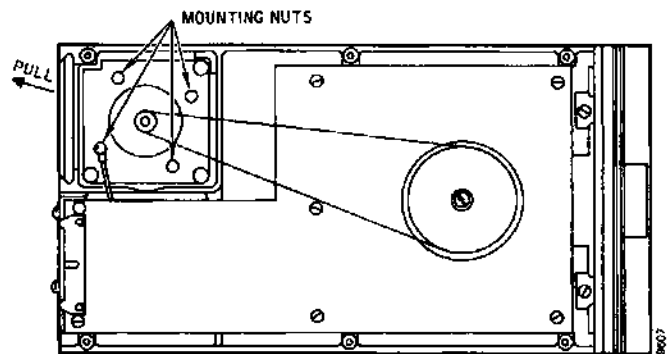

Figure 4-5. Drive Belt Checks and Adjustments
5. Verify that belt tension is 2.5 to 3.0 pounds (Figure 4-5). If tension is not as specified, perform the Drive Belt Tension Adjustment.
2. Loosen the four drive motor mounting nuts (see Figure 4-5).
4. Loosen the four drive motor mounting nuts (see Figure 4-5).
5. Remove the four drive motor mounting nuts (see Figure 4-5).